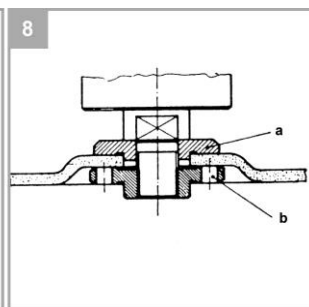

Fig.8
- Flange arrangement when using a depressed-centre cutting wheel (Fig. 8)